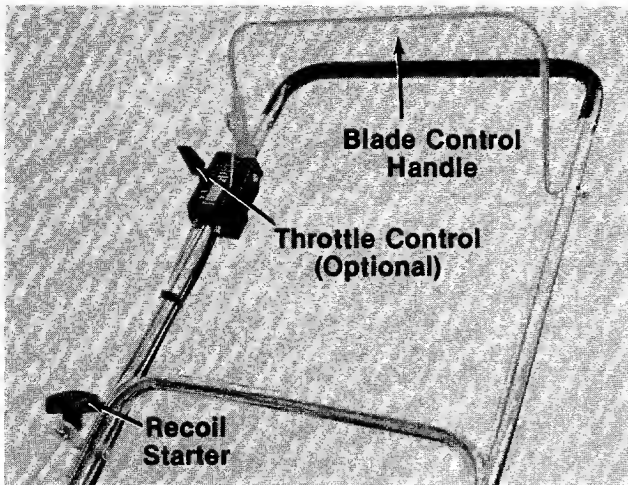

FIGURE 15.
2. Standing behind the unit, depress the blade control handle and hold it against the upper handle as shown in figure 15.